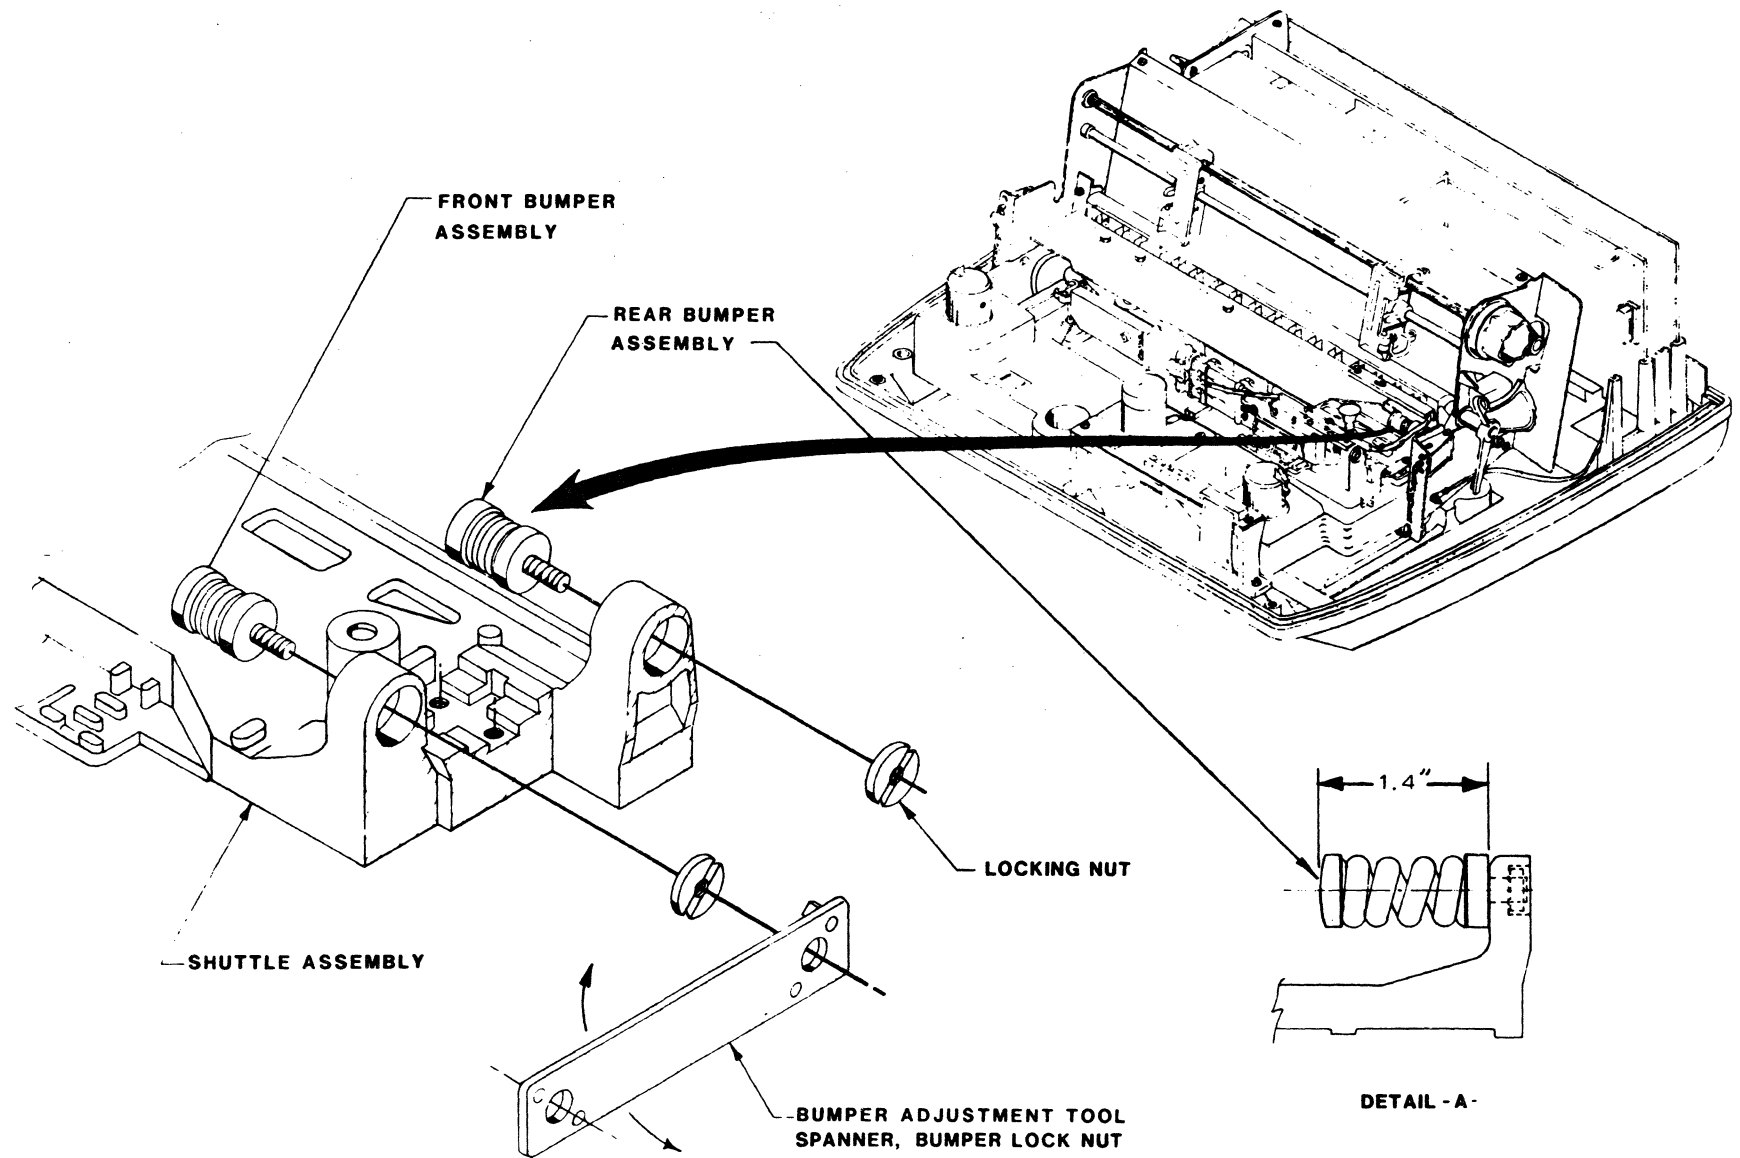

Figure 3-13. The Bumper Assemblies
The Shuttle Assembly will be moving forcefully against each bumper during the adjustment procedure. DO NOT PUT FINGERS BETWEEN THE SHUTTLE AND EITHER BUMPER. Instead, take care to grip only the edge surface of the bumper pad while rotating the Bumper Assembly during adjustment and do not touch the linear motor cable guides (Figure 3-13).
8. Loosen the locking nut at the right end of the front bumper (figure 3-13) by rotating it counterclockwise with the bumper locknut spanner (P/N 110459-001).
2. Replace the new Bumper Assembly and secure it with the locking nut after it is coarsely adjusted as shown in **Figure 3-13, Detail A.** (Use a steel rule for best results.)